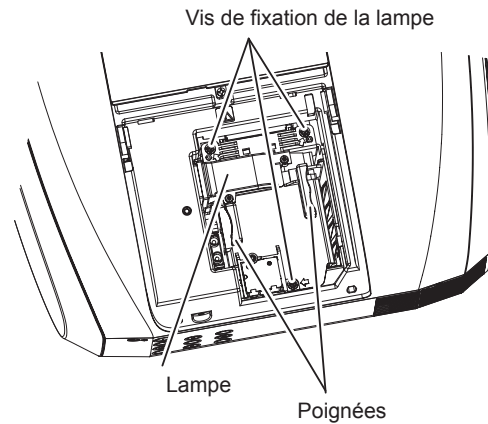

Fig. 2
- 3) **Retirez la lampe. (Fig. 2)**